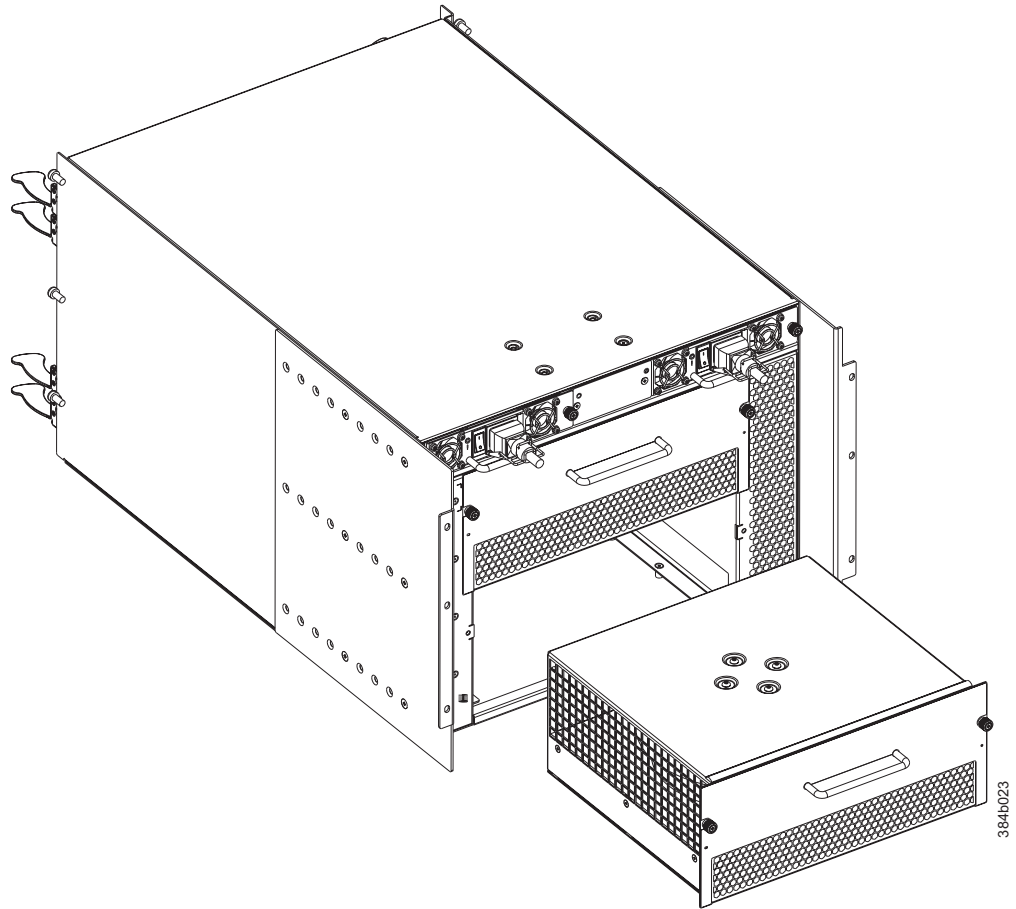

Figure 40. Blower assembly removal and replacement
3. Grasp the handle and pull, sliding the blower assembly from the chassis and supporting the blower assembly from beneath as you remove it (see Figure 40 on page 91).